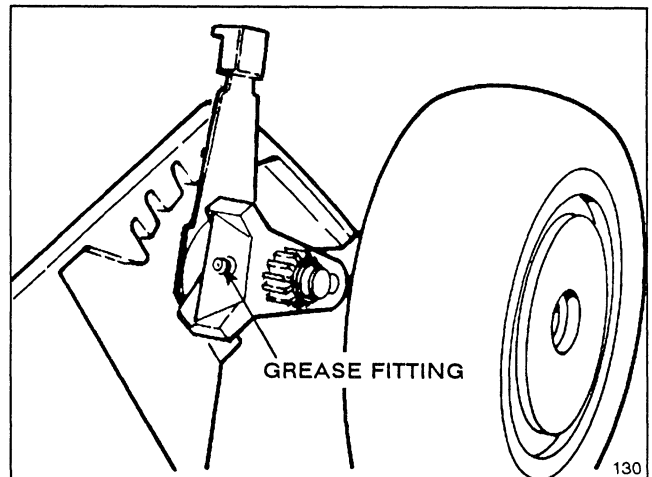

Figure 14
2. **GREASE FRONT AXLE PIVOTS** (Fig. 14) (model 16785 only)—Adjust height-of-cut to 3-inch setting. Wipe grease fitting with a clean rag. Install grease gun onto fitting and gently apply 2 or 3 pumps of #2 Multi-Purpose Lithium Base Grease. Excess pressure may damage seals.